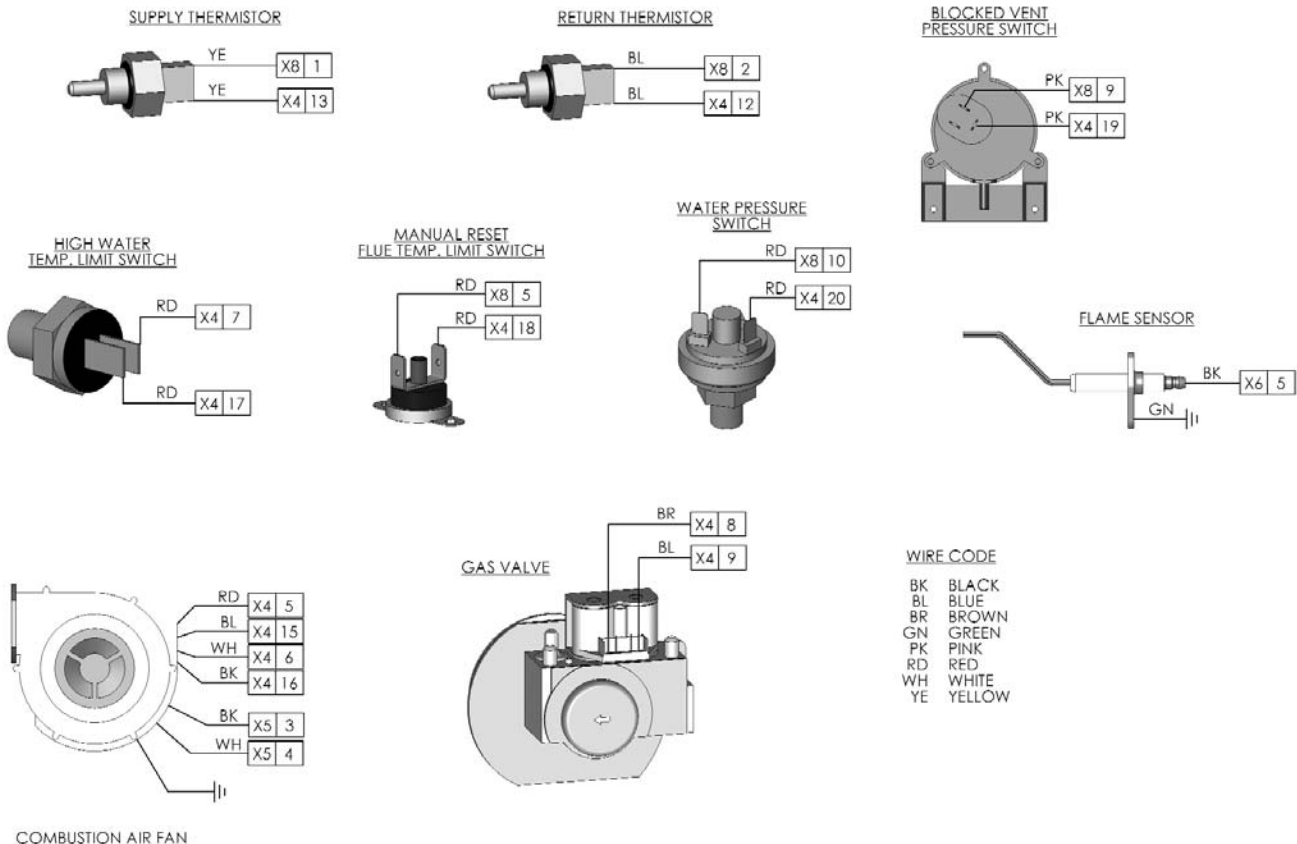

Figure 6.4: Component Wiring
9. Factory wiring of all controls and safety devices are shown in Figure 6.4.